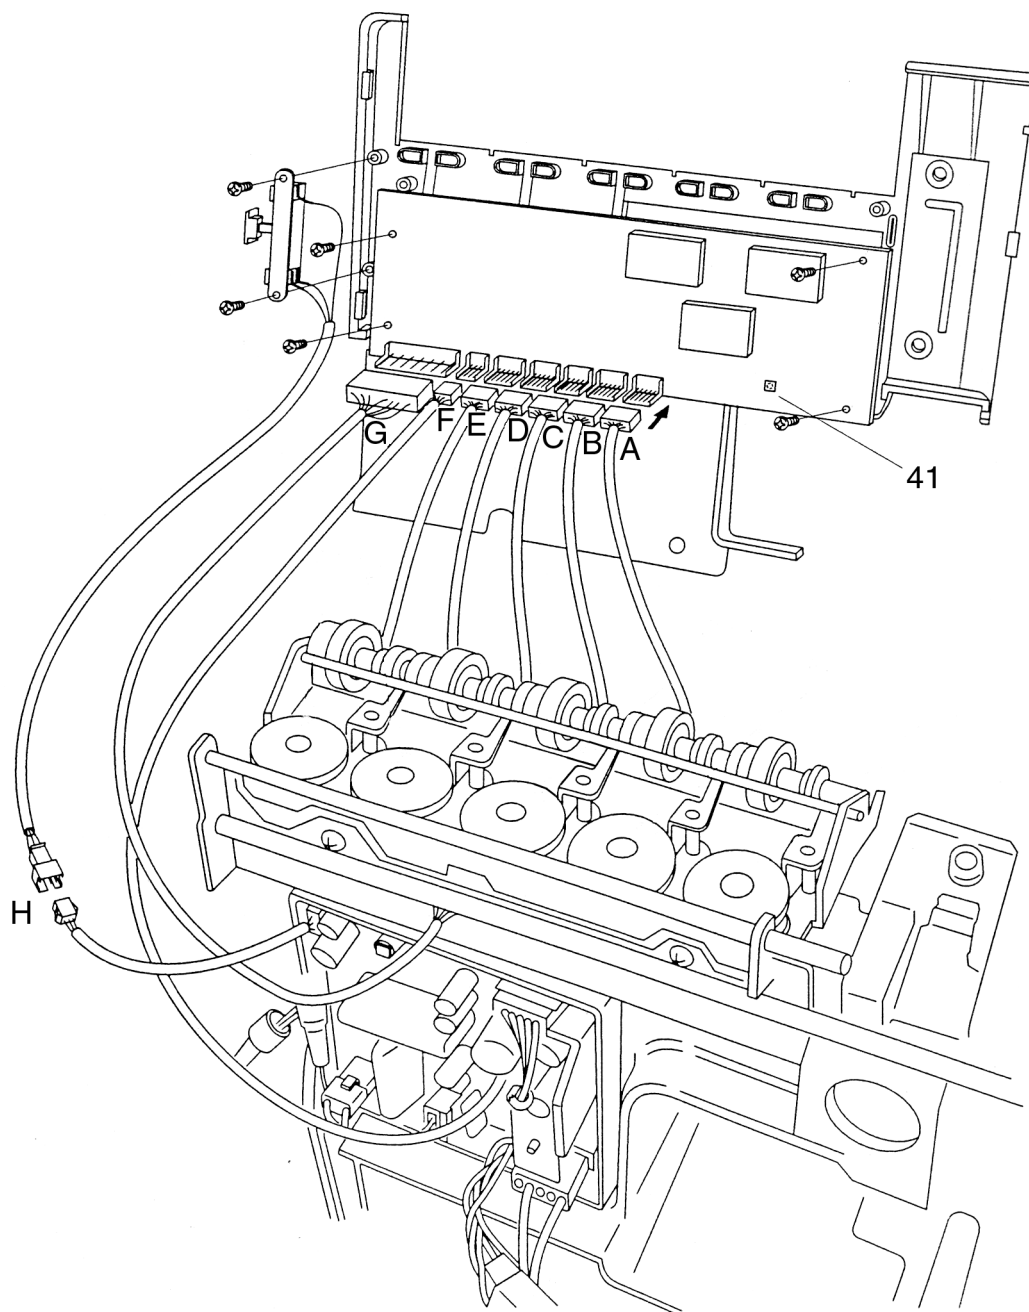

Fig. 67
- Using a small, narrow screw driver turn the potentiometer 41 slightly until the background lighting is set correctly (fig. 67).